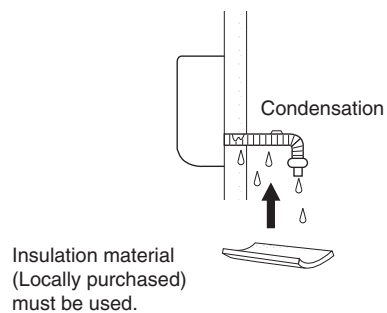

Fig. 3-106
- c) If the drain hose will run in the room, insulate the hose with insulation* so that chilled condensation will not damage furniture or floors. (Fig. 3-106)